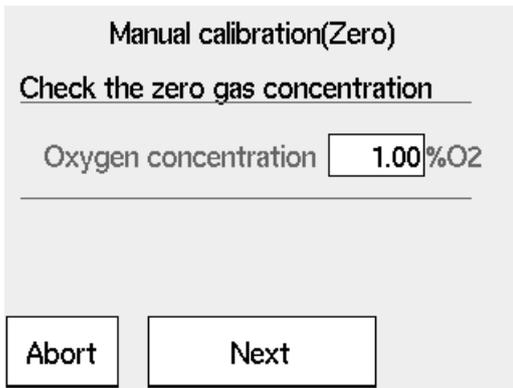

Figure 6.20 Zero gas concentration check
- (6) Select "Zero calibration". The screen of Figure 6.20 appears. Check that the oxygen concentration value on screen matches the oxygen concentration value of calibration gas that is actually used. Then select "Next".